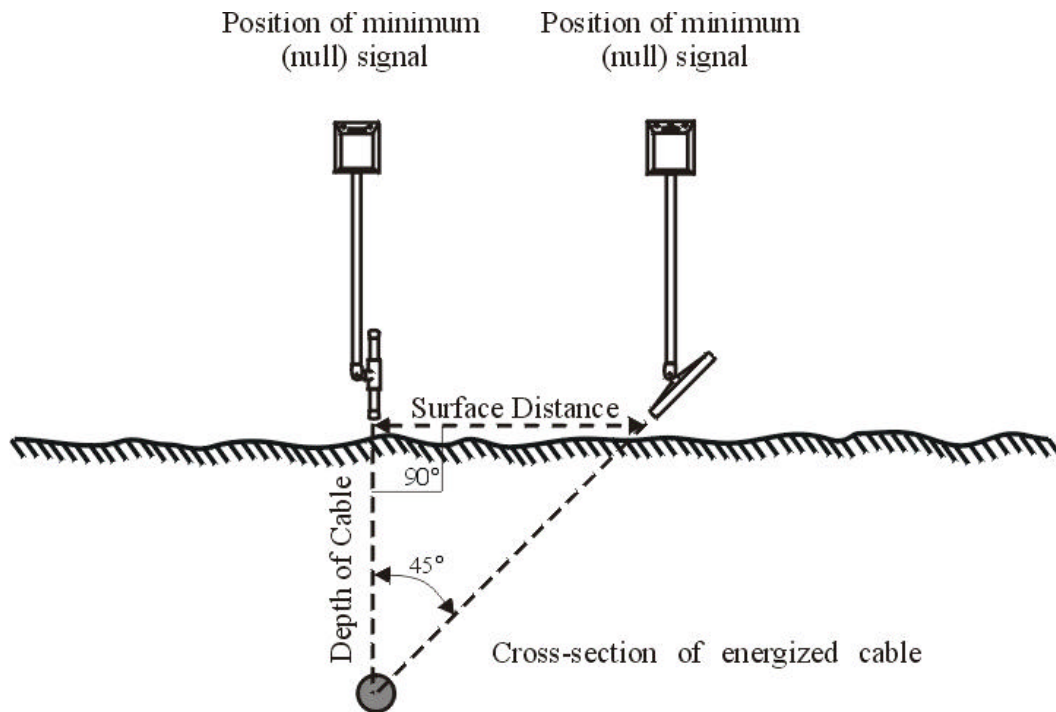

Figure 12: Depth Measurement by Surface Distance.
Thirdly, the operator measures the surface distance between the two marks which he has made on the surface of the earth. The distance between these two marks will be equal to the distance from the surface of the earth down to the cable, see Figure 12.
2. For extreme accuracy in depth measurements, not only must the instrument be held in a perfectly vertical position, but also the detection rod must be held as close as possible to the earth's surface. Otherwise the triangular relationship illustrated in Figure 12 will not be maintained.